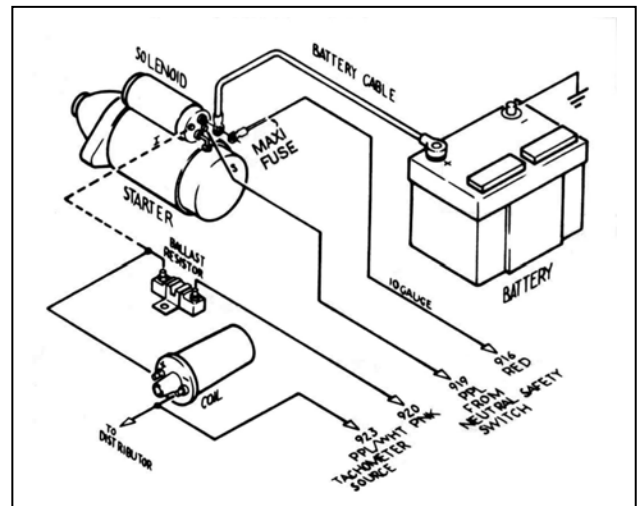

Figure 9-2 GM Ignition (Start-Run) System
9.0 Ignition (Start/Run) System. See Figure 9-2.
9.1.2 A 14-gauge wire connected from the Starter Solenoid Ignition (I) terminal to the ignition coil side of the Ballast Resistor is optional. This wire (the dashed line in Figure 9-2) serves as a ballast resistor BYPASS during engine starting. However, if the starter solenoid shorts out, which is not unusual, the engine will stop running and will not restart as long as this wire is connected. You may therefore choose to omit it. If you are not using a Ballast Resistor, leave the Starter Solenoid Ignition (I) terminal unconnected and do not install the bypass wire.